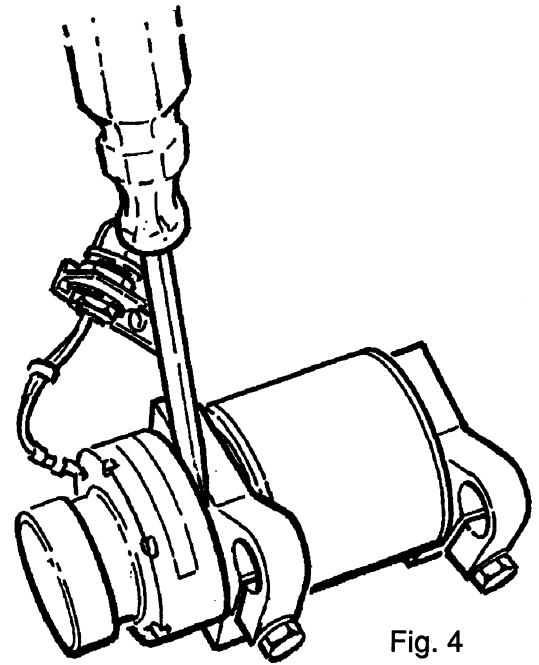

Fig. 4
- f) Loosen the electrical brake from the axle, see fig. 4.
- g) Remove the clamp ring (9) and the clamping plate (10).
- h) Undo the four screws (11); take two of the screws and fit in the holes (12) to separate the roller from the flange. Repeat on the other side.